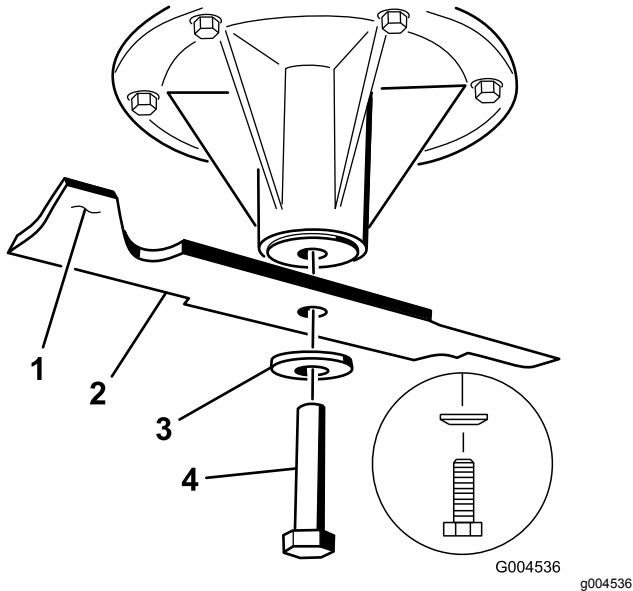

Figure 98
2. Remove the blade bolt, the curved washer, and the blade from the spindle shaft (Figure 98).